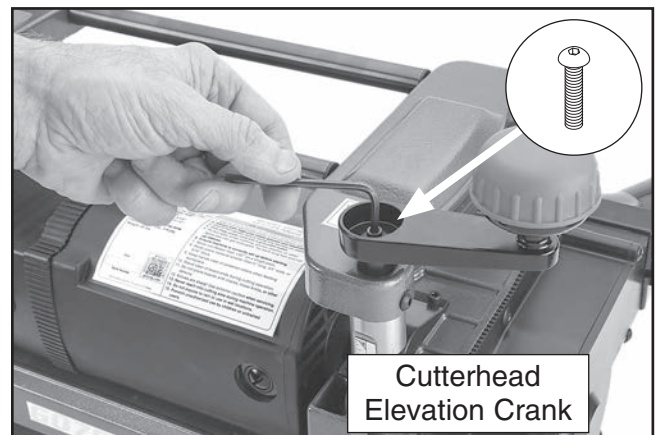

Figure 8. Installing cutterhead elevation crank.
4. Thread M5-.8 x 25 button head cap screw and 5mm flat washer through crank (see **Figure 8**) and into shaft. Tighten with 4mm hex wrench. Do not over-tighten.